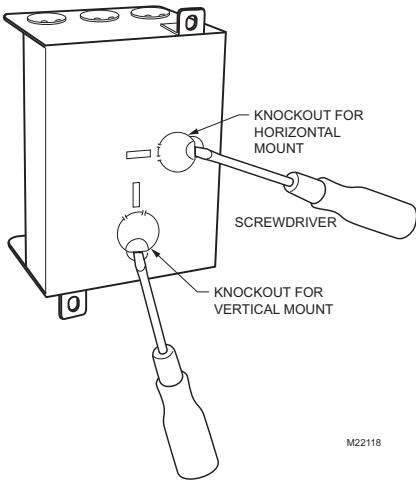

Fig. 2. Removing horizontal or vertical mounting knockout.
7. Remove the well knockout, for either vertical or horizontal mounting, by carefully prying the knockout from the back of the case, using a flat-bladed screw driver. Refer to Fig. 2.